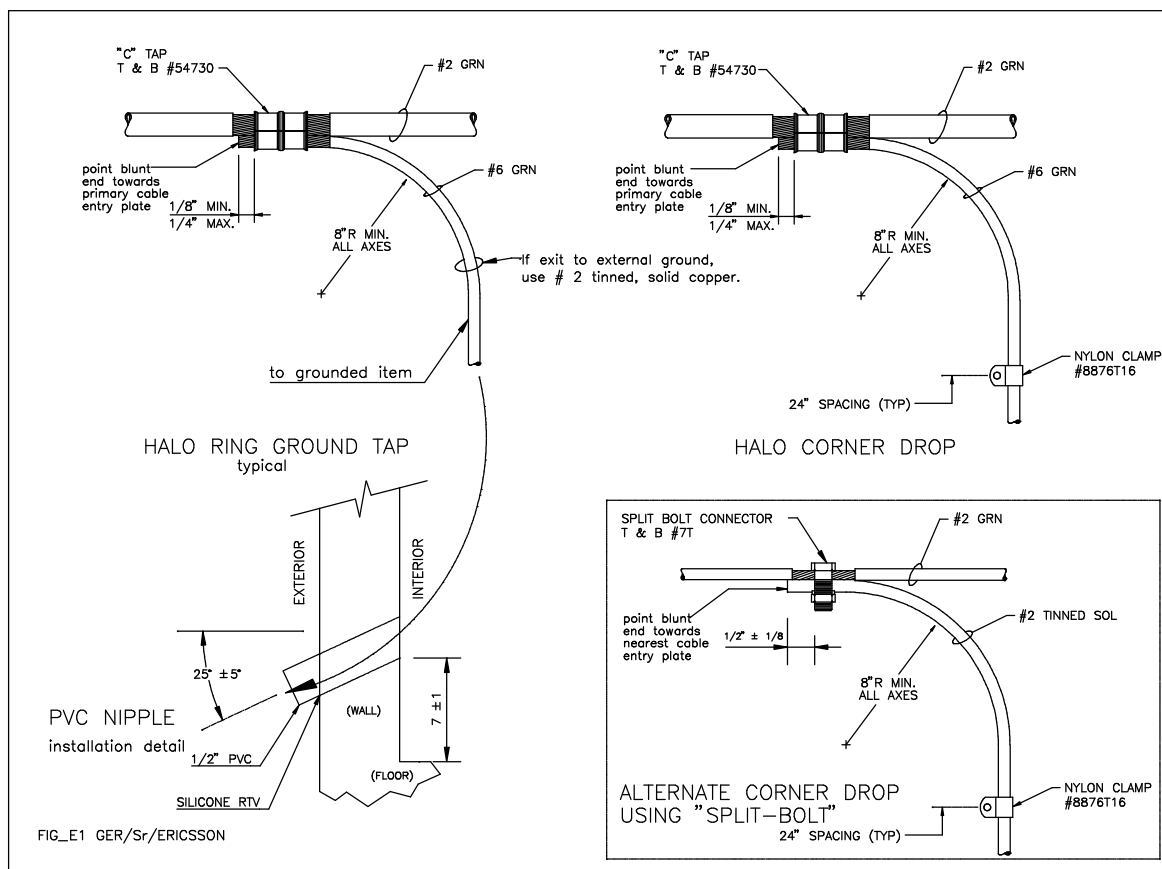
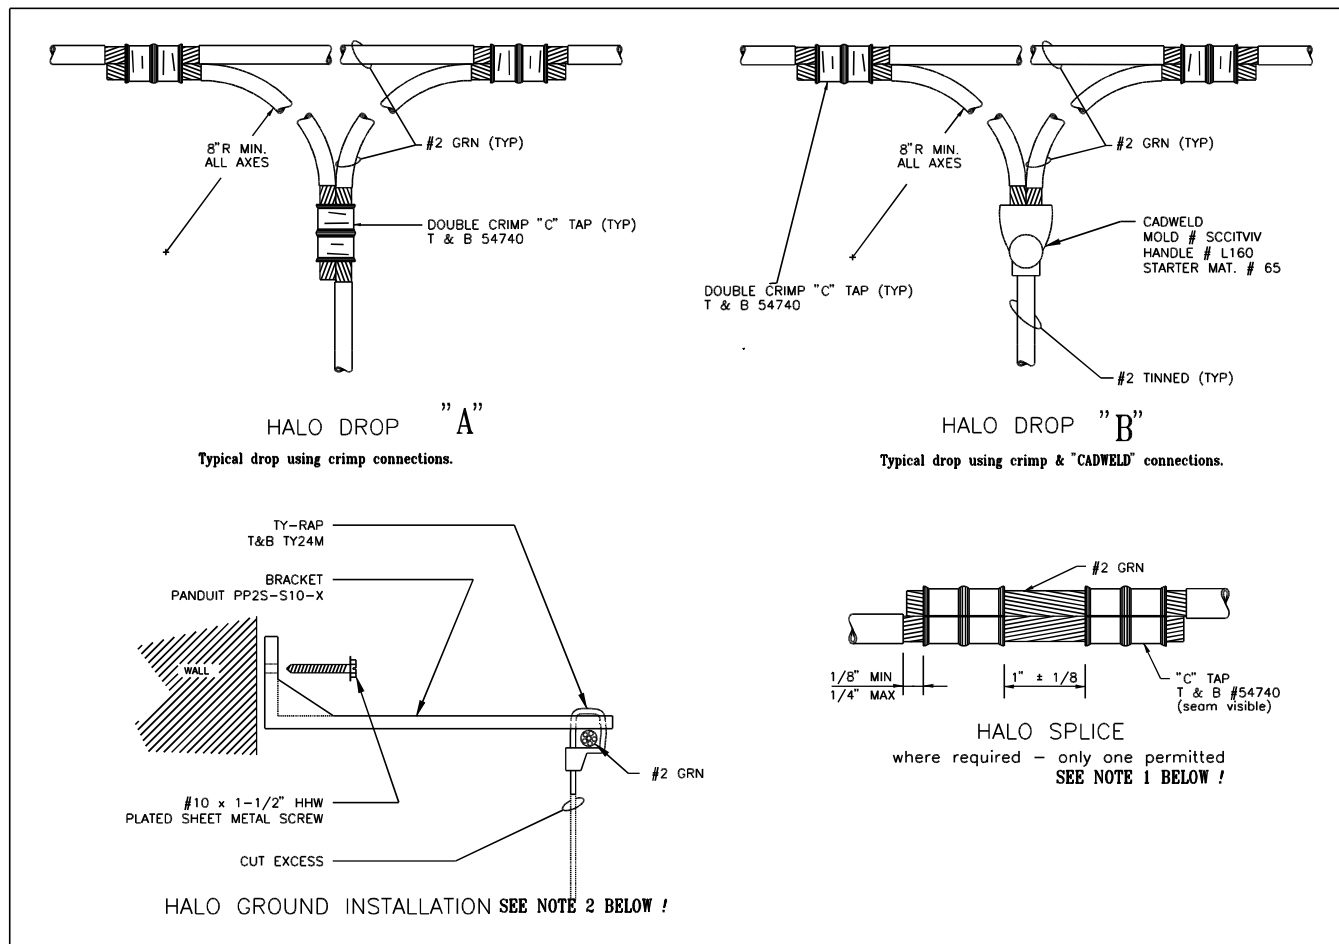
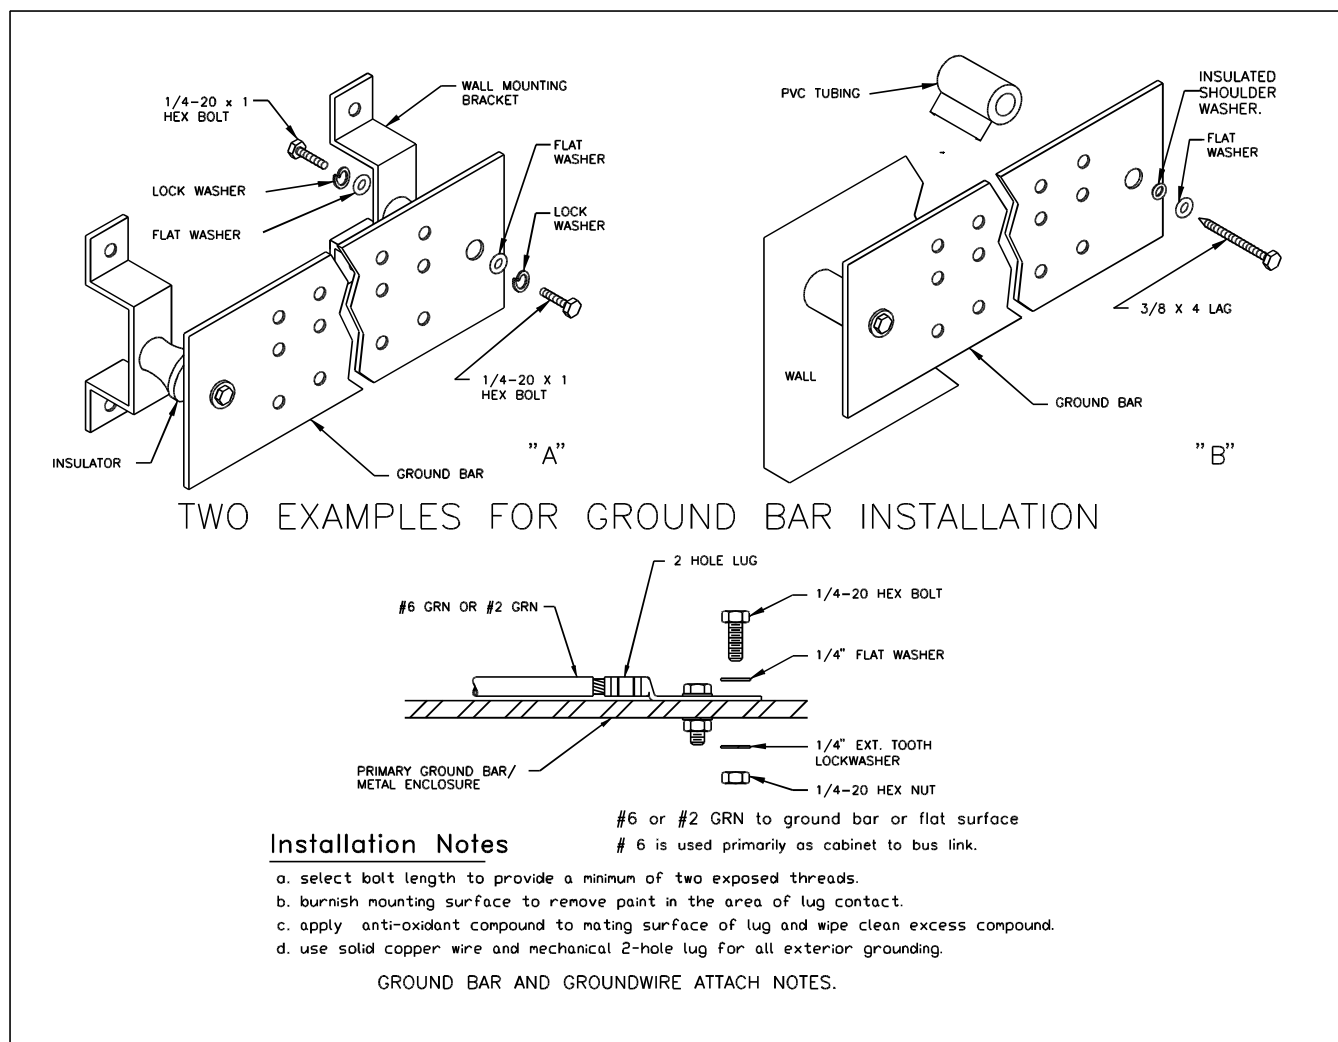

Figure 1 - Some Of The Ways The Inside "Halo" Ground Ring Is Connected To The External Ground Ring.
Figure 2 - Internal "Halo" Connections
Figure 3 - Two Examples For Ground Bar Installation
- 7.2 The manufacturer shall install a "halo" ground system consisting of a #2 AWG stranded green insulated copper halo located approximately 6 inches below the ceiling (see Figure 2 or the Ericsson Grounding Guidelines & Practices, LBI-39067A) with vertical #2 AWG bare/tinned solid copper drops at each corner of the building (see Figure 1 e.g. "PVC" Nipple). At these drop locations a length of bare/tinned solid copper wire capable of extending through and beyond the PVC nipple at least 10 feet shall be coiled and secured to the wall. The customer will use these to connect to the on site grounding system.
- 7.3 The shelter floor will be supplied with penetrations as per Figure 1 to allow the customer to exit at each corner wall location with the #2 AWG halo ground. Silicone sealer or equivalent shall be supplied for customers use to seal these penetrations after grounding connections have been made. An internal shelter "ground-bar" shall be installed as described in Figure 3.
- 7.6 All coax cable and/or waveguide entry grounds will terminate at the "ground window" or a ***PolyPhaser Earthed Entry Panel*** (PEEP) ground bar installed in an area near to, and/or below the cable multi-port entry panel. A description and example of the ground bar is illustrated in Figure 3.